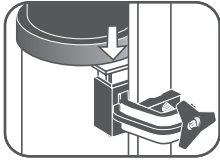

fig. 2
- To attach the PAP (fig. 2) Valve to a mounting clamp, simply slide the equipment mount into the corresponding equipment mount holder. Use of this type of mounting system will assure that the device remains in the upright (vertical) position.
**Note:** This device includes an integral equipment mount that is intended to mate with an ISO 19054:2005(E) compliant equipment mount holder.